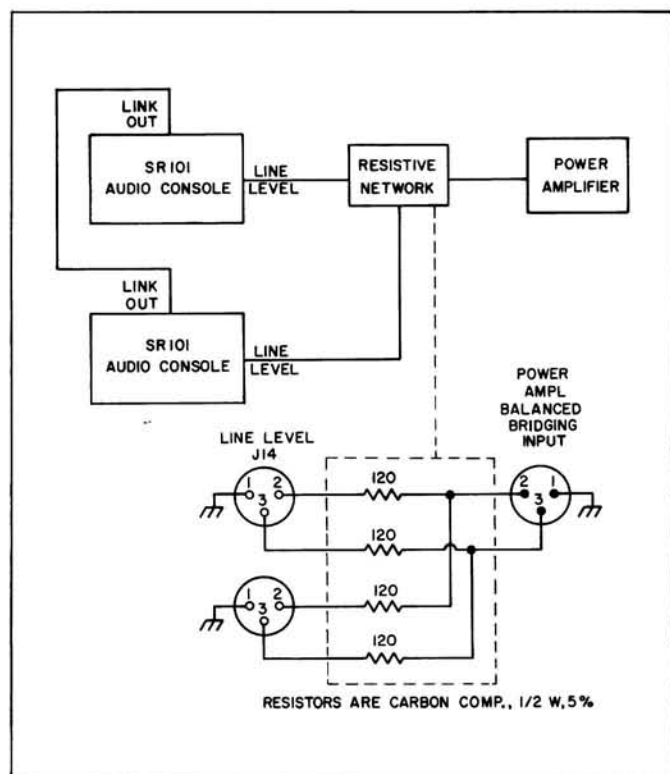

FIGURE 14. REDUNDANT CONSOLES
Connect a cable between the LINK OUT Jacks (31) of each Console. Construct a resistor network as shown in Figure 14, Page 16, and insert it between the LINE LEVEL Output Jacks (27) on both Consoles and the balanced bridging input of the power amplifier. The resistor network matches the output of the two Consoles to the balanced line to the power amplifier.